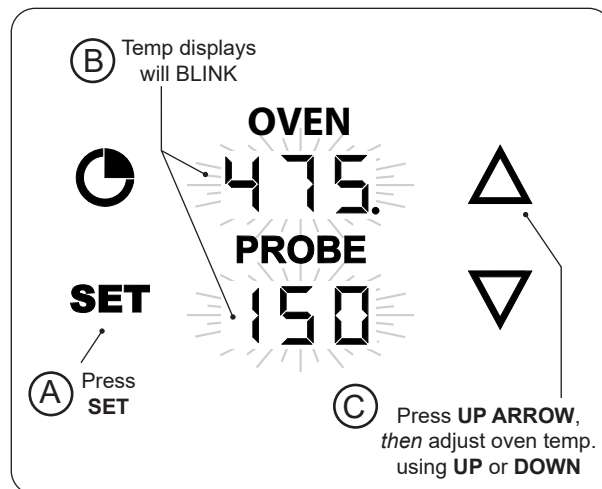

Fig. 33-1 Set grilling temp.
1. With the thermometer **on**, press the **SET** button once. The **OVEN** and **PROBE** displays will blink. (While blinking, either area can be selected to enter their settings.) See Fig. 33-1, A and B.
2. Press the **UP ARROW** to select the oven temp settings, then use the up or down arrows to set the desired temp. (Fig. 33-1, C).